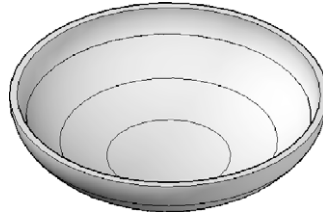

Fig. 12.21 Second example – Revolve
Second example – Revolve (Fig. 12.21)
7. Place in **Visual Styles/Shades of Gray** (Fig. 12.21).